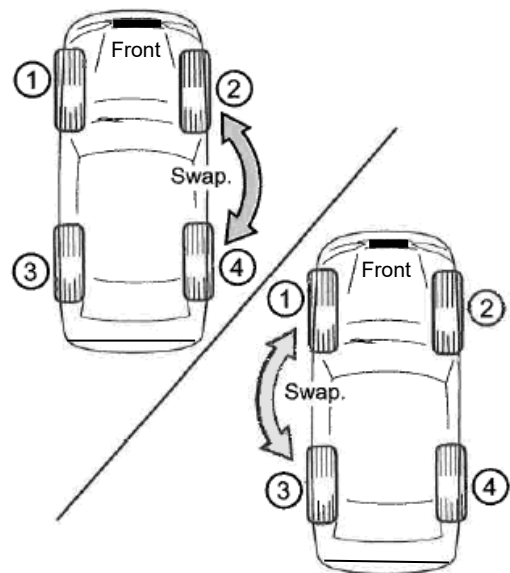

Figure 3
A. Rotate tires 2 and 4 on the passenger side (see Figure 3) and road test.
B. Rotate tires 1 and 3 on the driver side (see Figure 3) and road test.